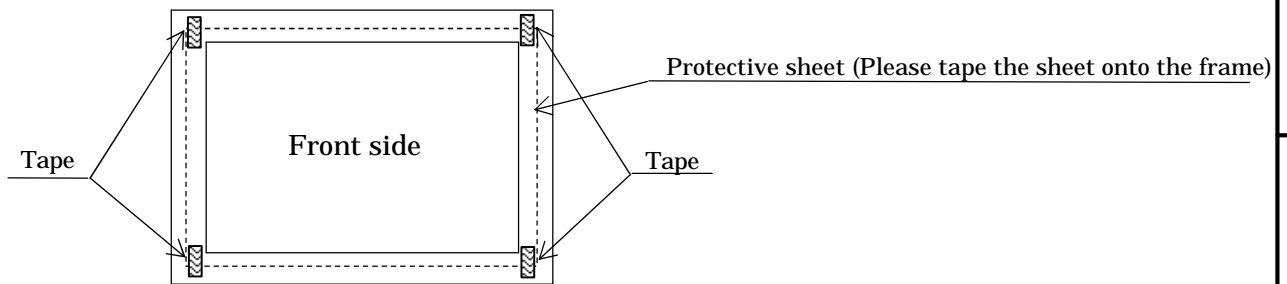

Figure 13-1(a) Packaging method
- ・ When returning the LCD modules, adhere to the following procedures not to damage the LCD panel or the backlight cables. (Fig. 13-1(a)~(d))